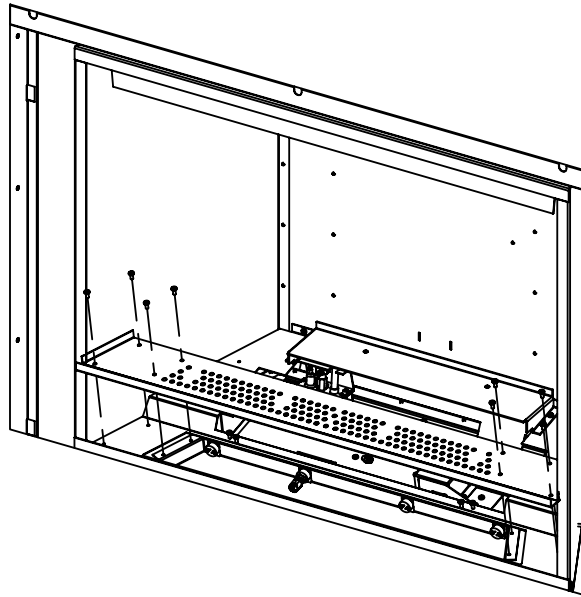

Figure 22: Media Tray Removal
4. Remove light tray by removing the four (8) T-20 screws (see Figure 22).